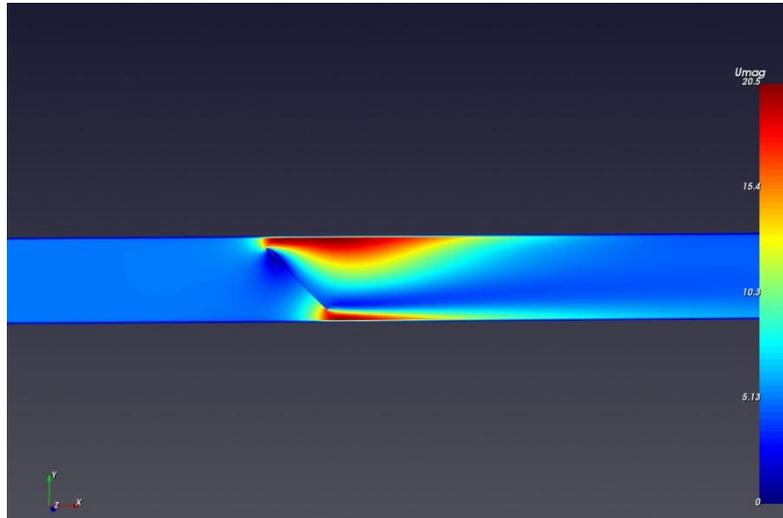

Figure 75. Velocity magnitude contour on the XY plane.
Create a default plane (XY) in **Post entities** panel and visualize Velocity magnitude ($|U|$) (Figure 75).